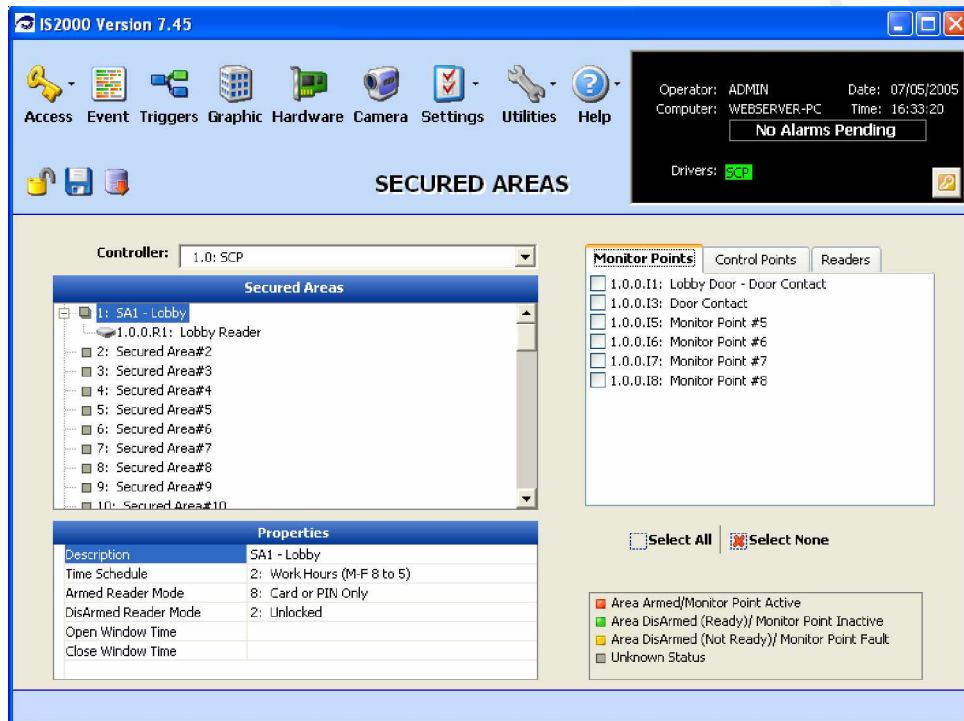

Figure 69 - Program Secured Areas
5. Program the remainder of the properties as shown in Figure 69.